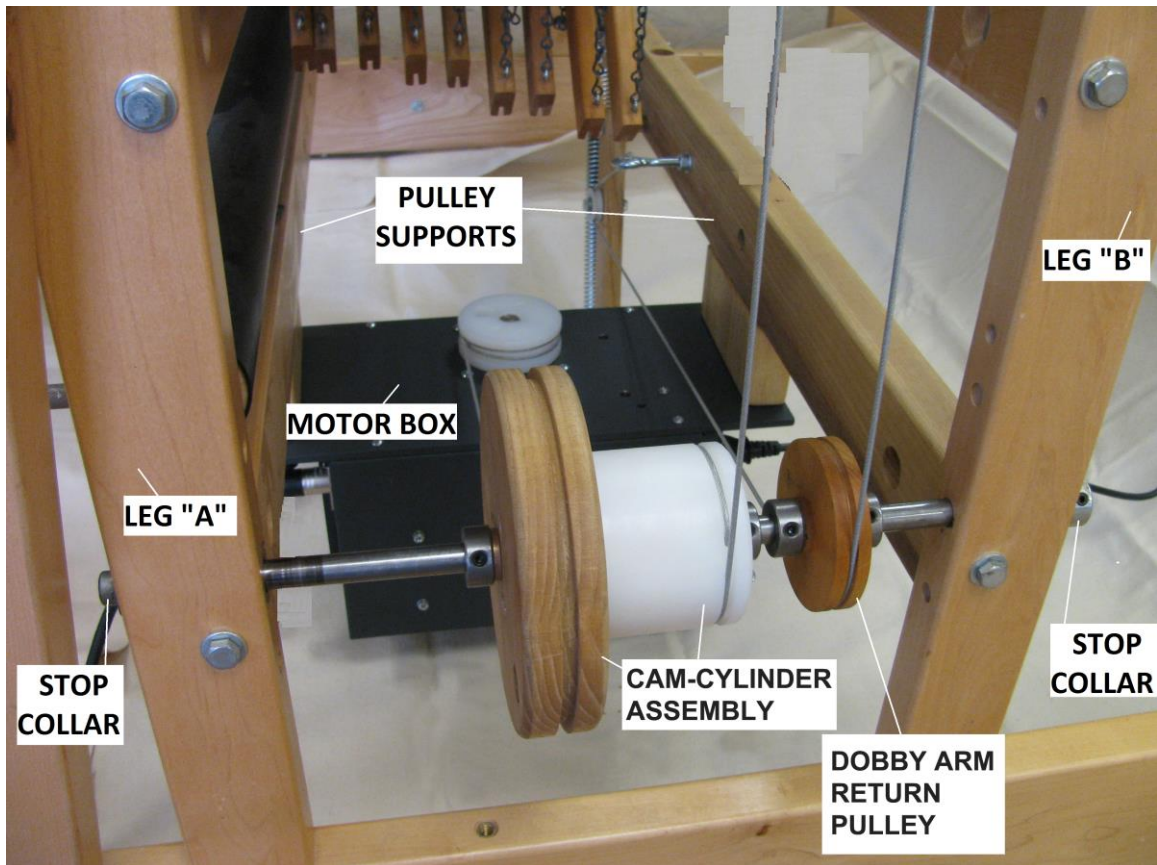

Fig. 3 – Cam and Pulleys (right side view)
3) *Note: Before proceeding with step 3, verify that your Cam-Cylinder assembly axle is held in place with stop collars on the outside of the vertical sideframe castle pieces (legs A & B in Figure 3). Otherwise, proceed to **Installing the Cam-Cylinder** before returning to this step in the procedure.*
Note: If your Cam-Cylinder assembly axle is not held in place with stop collars on the outside of the vertical sideframe castle pieces (LEGS A & B in Figure 3), you must remove either Leg A or Leg B to proceed. Follow steps 2 & 3 omitting the outside stop collars in step 3.
between Legs 'A&B'. As seen in Fig. 3, and in this order, slide the following components onto the axle:
5) The Dobby Arm to Spring Lever Cable is attached to the Dobby Arm in the same manner as the Dobby Arm to Cam-Cylinder Cable. Unwrap the Dobby Arm to Spring Lever Cable. Insert the crimped end of the cable in the small hole on the top of the Dobby Arm and attach the plastic cable retainer as discussed in step 4. Route the cable over the small pulley located on the Dobby Back. The cable must be in the Pulley slot under the Retainer. Now, route the cable down the right side of the Dobby Back to the Dobby Arm Return Pulley as seen in Figure 3. Guide the cable around the Return Pulley, then towards the center of the loom.